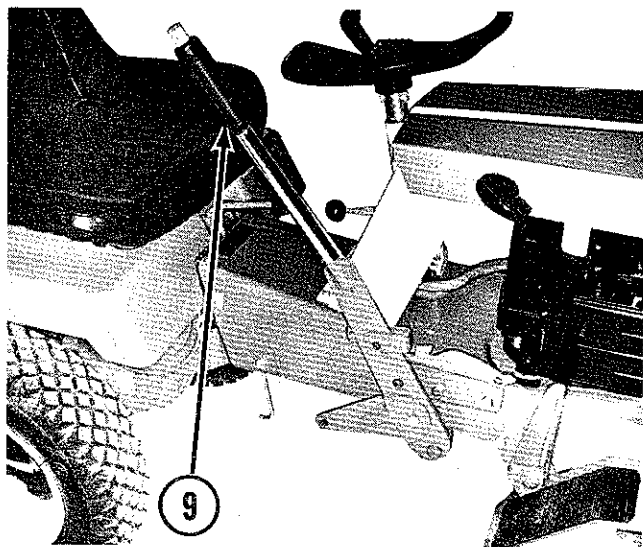

FIGURE 5
9. Lift Lever: (Optional) The lift lever is used for lifting the rotary mower or other implements out of the operating position so they can be transported. The implement is connected to the lift lever either with a lift chain or a lift link to the front or rear of the tractor. The thumb button on top of the handle is pressed to disengage the latch from the quadrant so the lever can be moved forward or rearward as required and locked in position. The mower may be held in the raised position with the hook provided if the tractor is not equipped with the lift lever. See Figure 5.